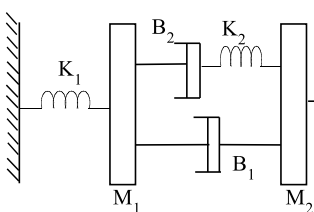

Fig.Q1A
**1A.** For the translation mechanical system shown in Figure Fig. Q1A.